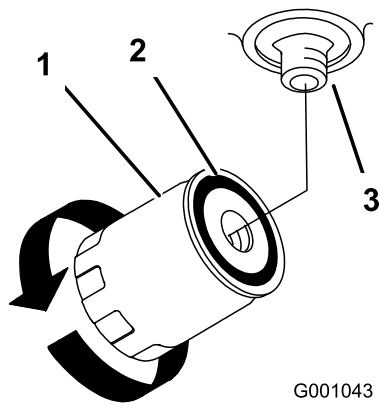

Figure 83
4. Remove the old filter and wipe the filter adapter gasket surface clean (Figure 83).
6. Install the replacement hydraulic filter onto the filter adapter. Turn the oil filter clockwise until the rubber gasket contacts the filter adapter, then tighten the filter an additional 1/2 turn (Figure 83).